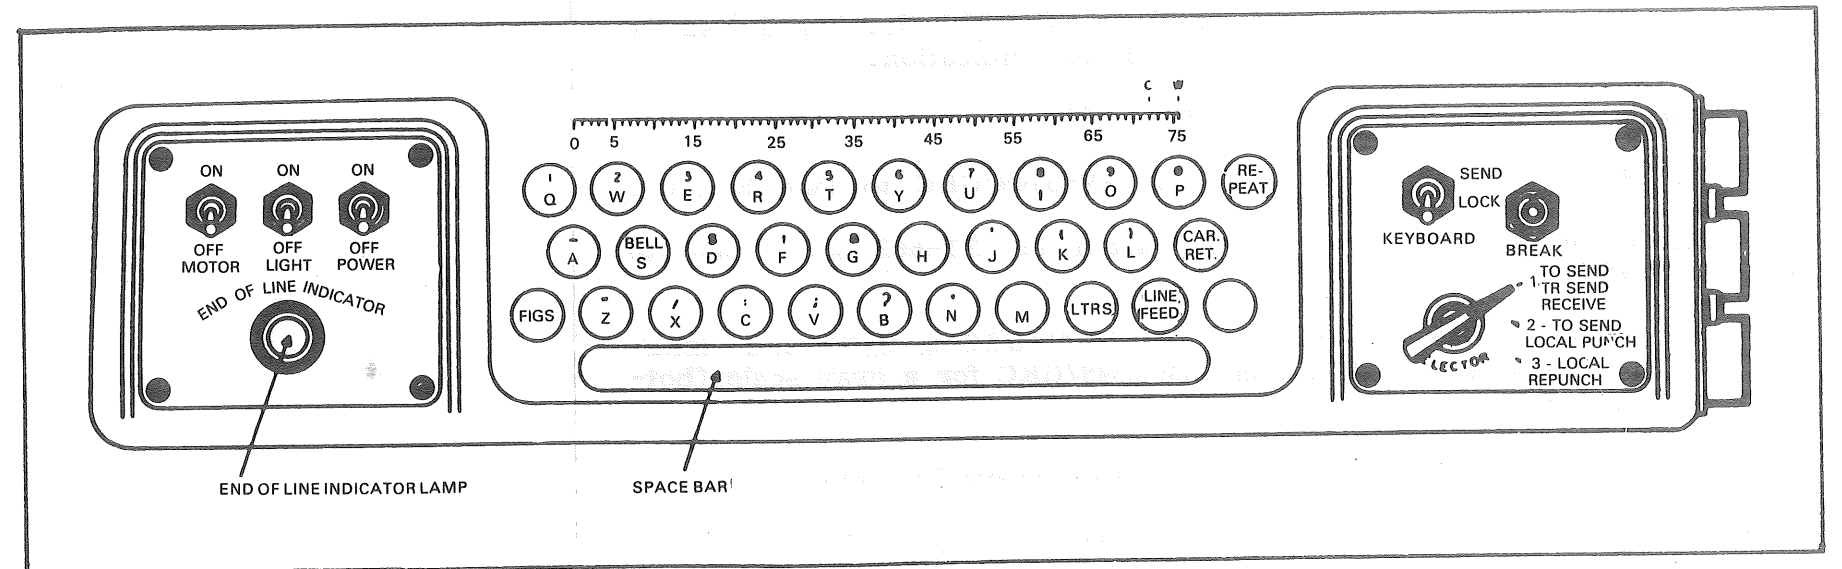

Figure 1. TT-98(*)/FG Keyboard.
- a. Place MOTOR and LIGHT switches to ON and SEND/LOCK or SEND/REC switch to SEND on TT-98(*)/FG (fig 1).